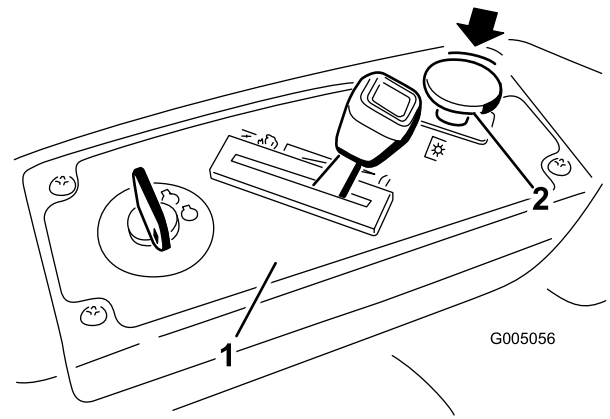

Figure 19
Push down on the blade control switch to move it to the Off position and disengage the blades (Figure 19).
- Disengage the blades by moving the blade control switch to Off (Figure 19).